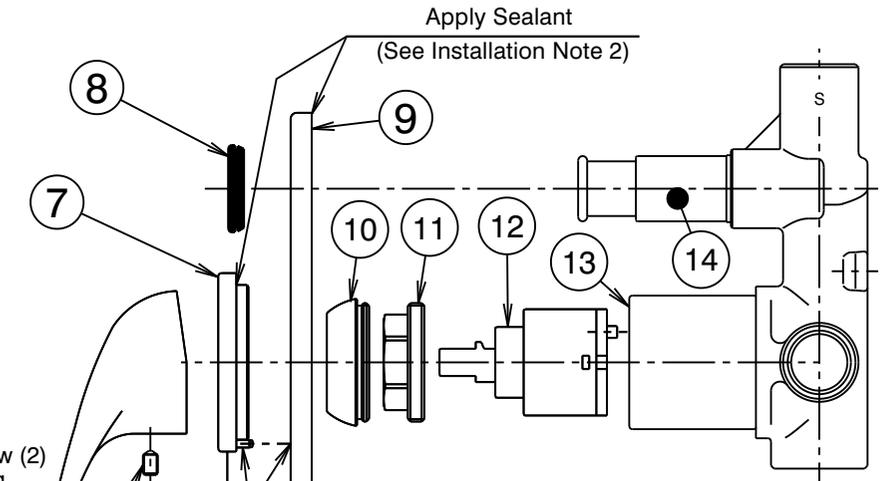
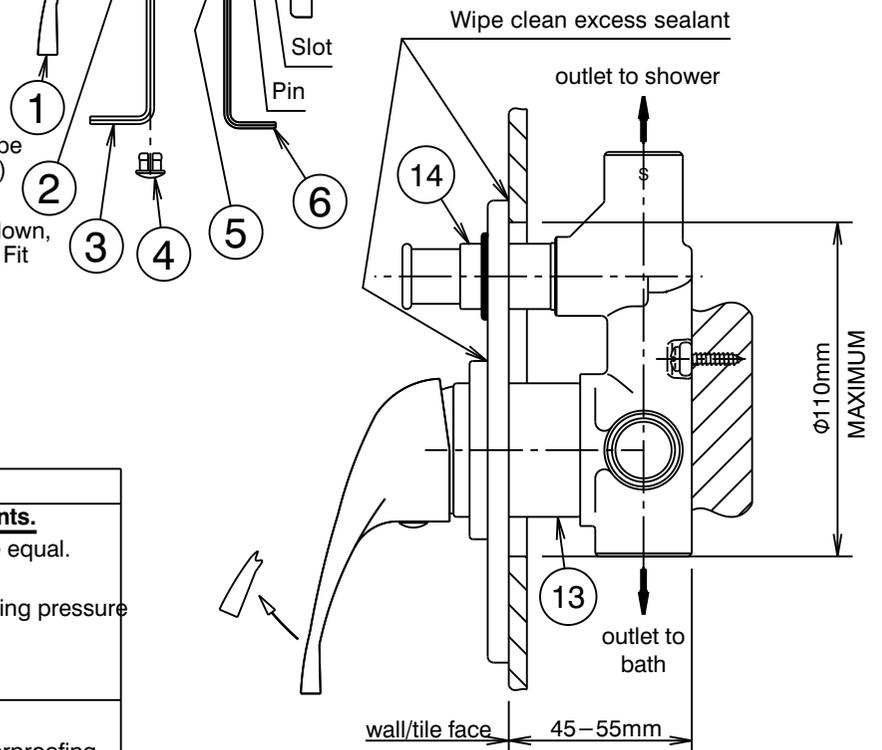

Fig. 2
Fig. 1
### Installation (Fig. 1 & 2)
- \* Mixer body (13) must be installed square to wall/tile face, to ensure cover plate (9) sits flush.
- 2) Fit rubber seal (8) into cover plate (9). Apply a suitable clear sealant to the back edge of the cover plate (9), leaving an unsealed section at the bottom for drainage. Carefully slide the cover plate (9) onto the diverter sleeve (14), pushing against the black rubber seal (8) until cover plate (9) abuts the wall/tile face. Apply a suitable clear sealant in the corner around the location diameter of the retaining ring (7), to prevent water entering the wall cavity (See Fig. 2). Carefully fit the retaining ring (7) onto the mixer body (13), ensuring the pin in the retaining ring is engaged in the slot in the cover plate. Push the retaining ring and cover plate firmly against the wall/tile face and tighten screws (5) using 2mm allen key (6). Wipe clean any excess sealant from the chrome surfaces & the wall/tile face (See Fig. 1).
- 3) Fit handle (1) taking care that it is pushed fully down, tighten screw (2) using the 2.5mm allen key (3). Fit indicator plug (4), position with red to the left.
### Replacing Cartridge (Fig. 2)